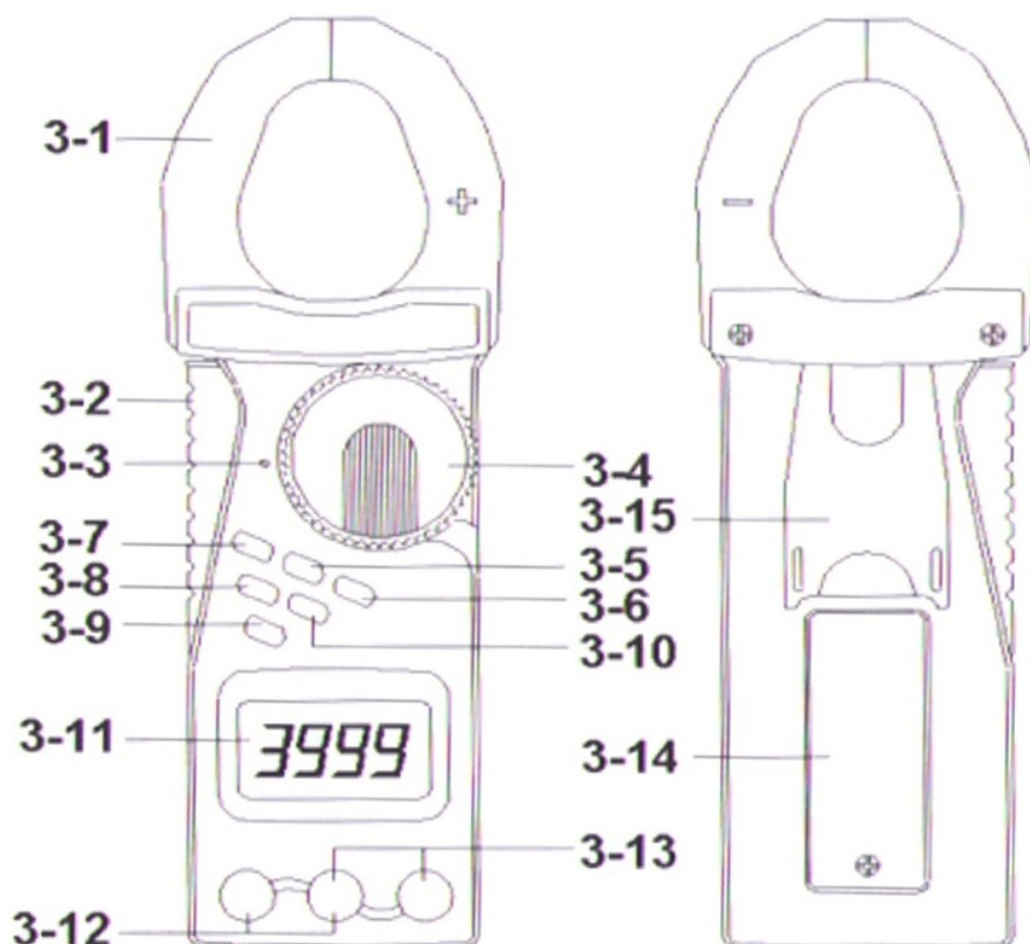

Fig. 1
- 3) If measure " DCV ", select the " Function rotary switch " (3-4, Fig. 1) to the " V " position then push the " FUNC. button " (3-9, Fig. 1) for display show "  ".
- 4) If measure " ACV ", select the " Function rotary switch " (3-4, Fig. 1) to the " V " position then push the " FUNC. button " (3-9, Fig. 1) for display show "  ".
- 6) Under the operation of " auto range " mode, push the " Range button " (3-10 Fig. 1) will hold the range.
- 3) Select the " Function rotary switch " (3-4, Fig. 1) to the " Ω " position then push the " FUNC. button " (3-9, Fig. 1) for display show " Ω ".
- 5) Under the operation of " auto range " mode, push the " Range button " (3-10 Fig. 1) will hold the range.
- 3) Select the " Function rotary switch " (3-4, Fig. 1) to the
- "  " position then push the " FUNC. button " (3-9, Fig. 1) for display show "  " .
- 3) Select the " Function rotary switch " (3-4, Fig. 1) to the "  " position then push the " FUNC. button " (3-9, Fig. 1) for display show "  " .
- 1) Select the " Function rotary switch " (3-4, Fig. 1) to the " 2000A " position then push the " FUNC. button " (3-9, Fig. 1) for display show "  ".
- 2) Press the " Trigger " (3-2, fig. 1) to open the " Current Sensor Jaws " (3-1, Fig. 1) & clamp on the measure conductor only.
- a. Recommend use the "auto range "mode typically. However if push the " Range button " (3-10, Fig. 1) will hold the range.
- 2) Push the " DCA zero button " (3-5, Fig. 1) at least 2 seconds to let the display show " ZERO " value.
- 3) Press the " Trigger " (3-2, fig. 1) to open the " Current Sensor Jaws " (3-1, Fig. 1) & clamp on the measure conductor only.
- 3) If measure " μA " (400 μA , 4000 μA), select the " Function rotary switch " (3-4, Fig. 1) to the " μA " position then push the " FUNC. button " (3-9, Fig. 1) for display show "  ".
- 4) If measure " mA " (40 mA, 400 mA), select the " Function rotary switch " (3-4, Fig. 1) to the " mA " position then push the " FUNC. button " (3-9, Fig. 1) for display show "  ".
All the measuring procedures are same as above 5-8, except push the " FUNC. button " (3-9, Fig. 1) for display show "  ".